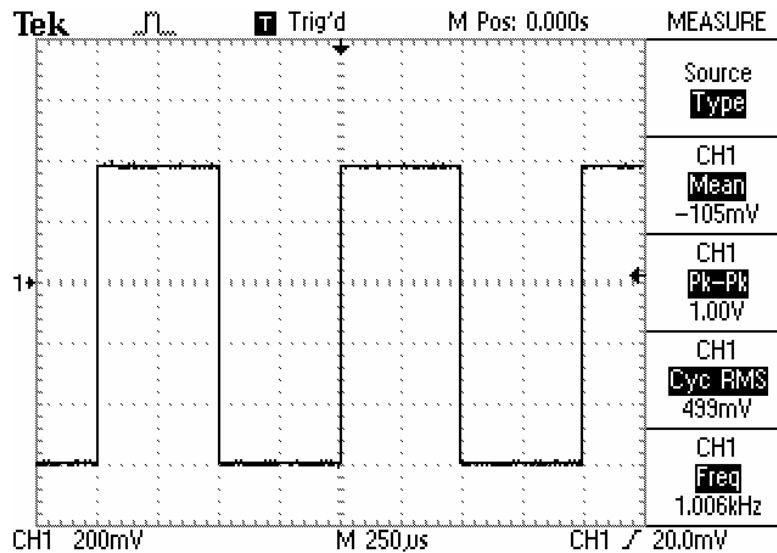

Figure 16: Oscilloscope Display of 1 kHz Square Wave
24. [] While watching the TDS210 CH1 Pk-Pk display, adjust the A&D AMPLITUDE knob to obtain approximately 1V Pk-Pk (Hint: adjust TDS210 CH1 VOLTS/DIV as needed). While watching the TDS210 CH1 Freq display, adjust the FREQ knob to obtain a 1 kHz square wave (Hint: adjust TDS210 SEC/DIV as needed). See Figure 16.